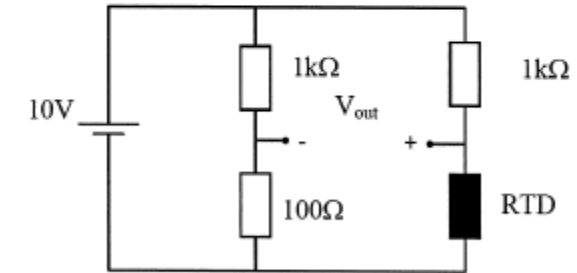

Figure 3
- (d) Based on the sensitivity at  $0^\circ\text{C}$  and assuming we want amplify the signal of the sensor in Figure 3 and interface it with an 8-bit AD converter operating between 0-5V, determine:
3. A Pt100 RTD sensor is connected to one arm of a Wheatstone bridge as shown in Figure 3.